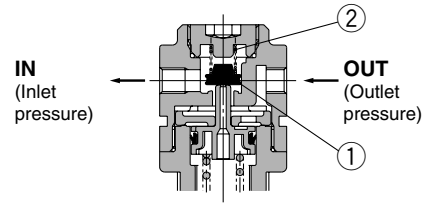

Figure 2
When the inlet pressure is higher than the regulating pressure, the check valve operates as a normal regulator (Figure 1). When the inlet pressure is shut off and exhausted, any inlet pressure applied to valve ① will be lost. The force for seating valve ① is the valve spring ② force only. When valve ① is opened using the outlet force, the outlet pressure will be exhausted at the inlet side. (Figure 2)